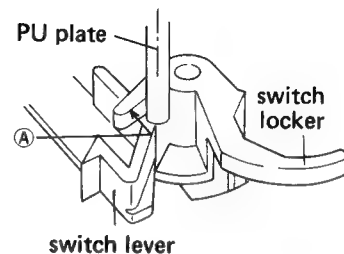

Fig. 4-7 Adjustment of switch locker
In order to turn the power OFF, the PU plate shaft touches surface ① of the switch locker pushing it over so it locks with the switch lever turning the microswitch OFF (Fig. 4-7). If the amount of push on the switch locker is insufficient, it can not lock with the switch lever. With the tonearm locked in the arm rest, as shown in figure 4-8, attach the PU plate precisely mid-way between the first and second points from the arm base scale mark counting away from you.